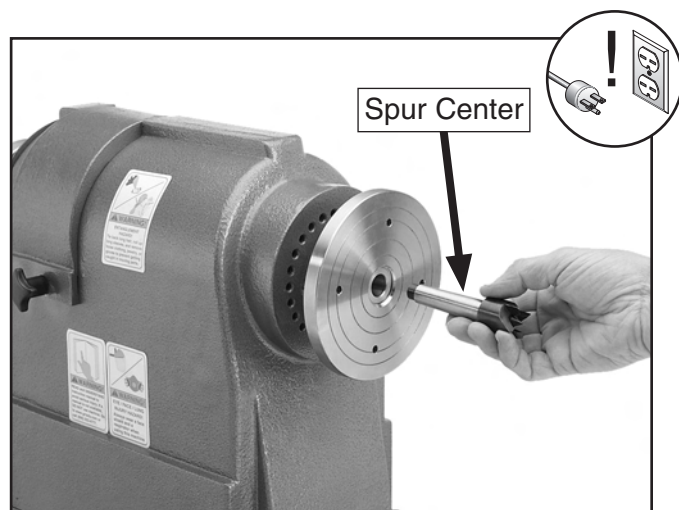

Figure 16. Installing center into the headstock spindle.
3. Insert the tapered end of the center into the spindle, and push it in with a quick, firm motion (**Figure 16**).